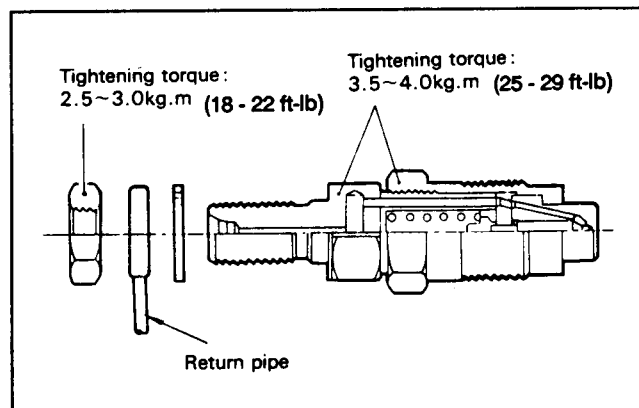

Figure 66
2. Install the shim and pressure spring the body. Assemble the body to the retaining nut. Put the nozzle holder in a vise. Tighten the body and nut to a torque of 3.5 - 4.0 KgM (25 - 29 ft-lb) (Fig. 66).
3. Install the fuel return pipe. Tighten the retaining nut to a torque of 2.5 - 3.0 KgM (18 - 22 ft-lb) (Fig. 66).